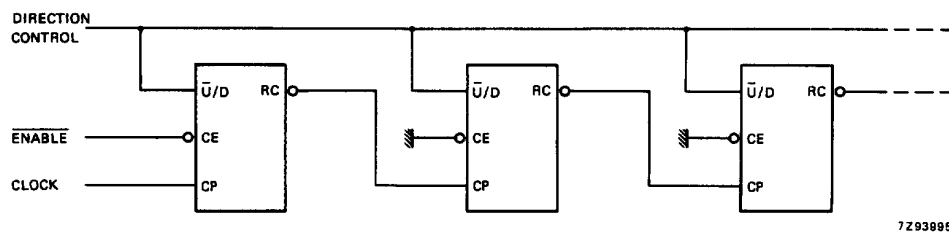
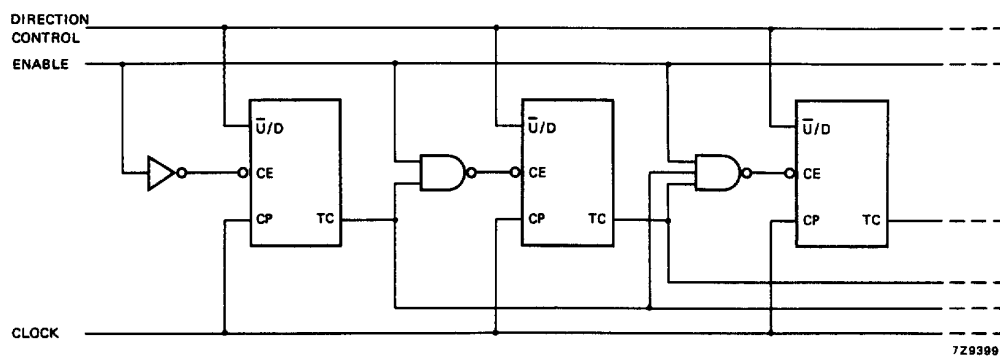

Fig.5 N-stage ripple counter using ripple clock.
Fig.7 Synchronous n-stage counter with parallel gated carry/borrow.
Overflow/underflow indications are provided by two types of outputs, the terminal count (TC) and ripple clock ( $\overline{RC}$ ). The TC output is normally LOW and goes HIGH when a circuit reaches zero in the count-down mode or reaches "9" in the count-up-mode. The TC output will remain HIGH until a state change occurs, either by counting or presetting, or until  $\overline{U/D}$  is changed. Do not use the TC output as a clock signal because it is subject to decoding spikes. The TC signal is used internally to enable the  $\overline{RC}$  output. When TC is HIGH and  $\overline{CE}$  is LOW, the  $\overline{RC}$  output follows the clock pulse (CP). This feature simplifies the design of multistage counters as shown in Figs 5 and 6.
In Fig.5, each  $\overline{RC}$  output is used as the clock input to the next higher stage. It is only necessary to inhibit the first stage to prevent counting in all stages, since a HIGH on  $\overline{CE}$  inhibits the  $\overline{RC}$  output pulse as indicated in the function table. The timing skew between state changes in the first and last stages is represented by the cumulative delay of the clock as it ripples through the preceding stages. This can be a disadvantage of this configuration in some applications.
In Fig.7, the configuration shown avoids ripple delays and their associated restrictions. Combining the TC signals from all the preceding stages forms the  $\overline{CE}$  input for a given stage. An enable must be included in each carry gate in order to inhibit counting. The TC output of a given stage is not affected by its own  $\overline{CE}$  signal therefore the simple inhibit scheme of Figs 5 and 6 does not apply.